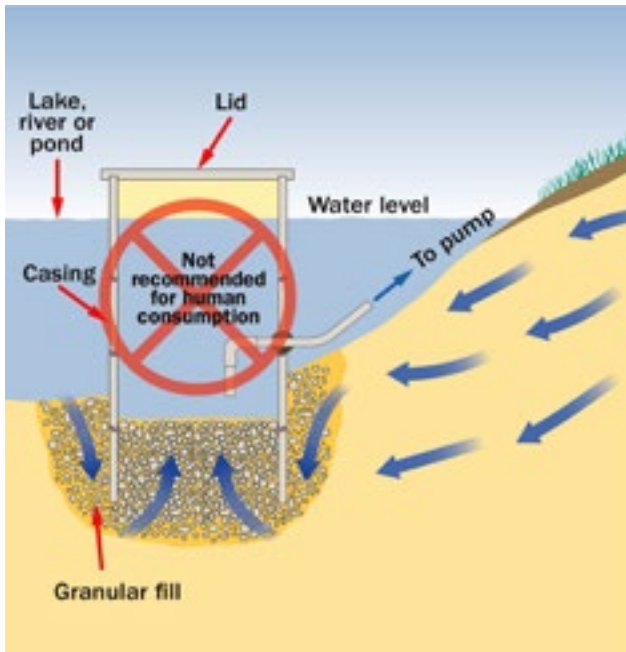

Figure 4. Cross-section of a shore well constructed in a lake.
- **Shore wells**, also known as a “surface-water trench systems” or “infiltration galleries,” are either shallow infiltration trenches filled with granular material installed near the shore of a surface water feature (e.g., lake, pond or stream) or structures located directly in the surface water feature near the shore. Shore wells are directly connected to and draw in surface water (Figure 4). Shore wells have a thin or no protective soil layer and are not true wells.